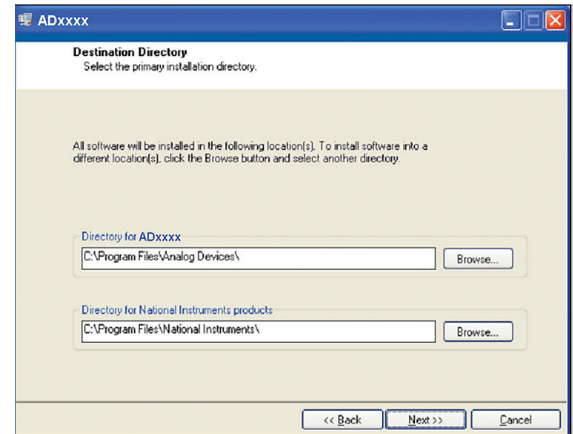

Figure 9. AD7124-4/AD7124-8 Eval+ Software Installation: Selecting the Location for Software Installation
4. Select a location to install the software, and then click **Next**. Figure 9 shows the default locations, which are displayed when the dialogue box appears, but a user can select another location by clicking **Browse**.